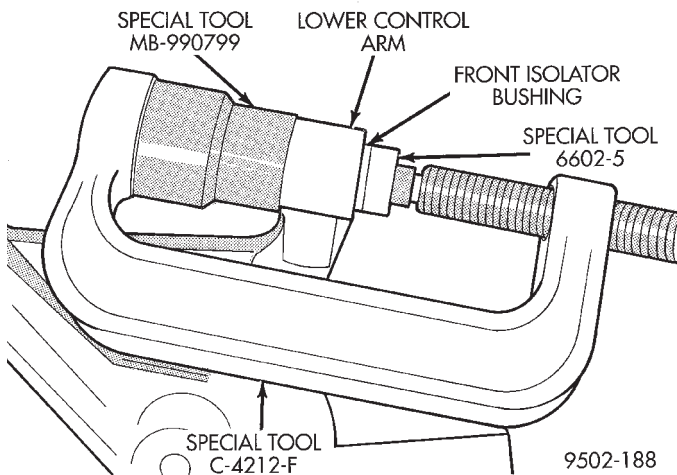

Fig. 99 Removing Front Bushing From Lower Control Arm
(1) Remove lower control arm assembly from vehicle. See Lower Control Arm Removal in this section of the service manual for the required removal procedure.
(2) Install Bushing Remover, Special Tool 6602-5 and Bushing Receiver, Special Tool MB-990799 on Special Tool C-4212-F.
(3) Install lower control arm on Special Tools assembled for removal of the front isolator bushing. Be sure Special Tool MB-990799 is square on lower control arm and Special Tool 6602-5 is positioned correctly on isolator bushing (Fig. 99).